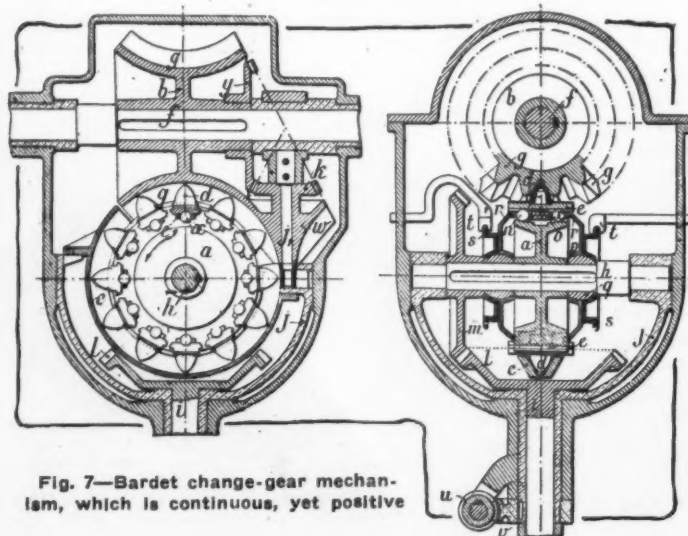

Fig. 7—Bardet change-gear mechanism, which is continuous, yet positive
**CONTINUOUS Gear Change.**—The Bardet system for effecting infinitely graduated changes in the ratio of a power transmission depends upon the use of special beehive-shaped slidable gear teeth such as are shown marked  $d$  in Fig. 7. The system is at present interesting mainly as an example of pretty mechanics. The teeth  $d$  of the driving-wheel  $a$  are mounted on sliding-blocks  $e$  movable transversely of the wheel in grooves  $ei$ . The driven wheel  $b$ , on the other hand, has fixed teeth formed on planes radiating from its axis. The shaft  $f$  of this wheel is stationary, and the shaft  $h$  of wheel  $a$  can turn around a third shaft  $i$  which is perpendicular upon both shaft  $f$  and shaft  $h$ .
If wheel  $a$  is turned parallel with the shaft wheel  $b$ , as in both the sectional views of Fig. 7, its teeth  $d$  can all pass successively between two teeth  $g$  of wheel  $b$  without causing any rotation of the latter. But if the plane of wheel  $a$  is turned around shaft  $i$  into an oblique position, each tooth  $d$  of  $a$ , once engaged between two teeth  $g$  of  $b$ , will push one of these teeth laterally and will make the wheel  $b$  turn a certain angle, the size of which depends upon the angle of inclination of wheel  $a$ .